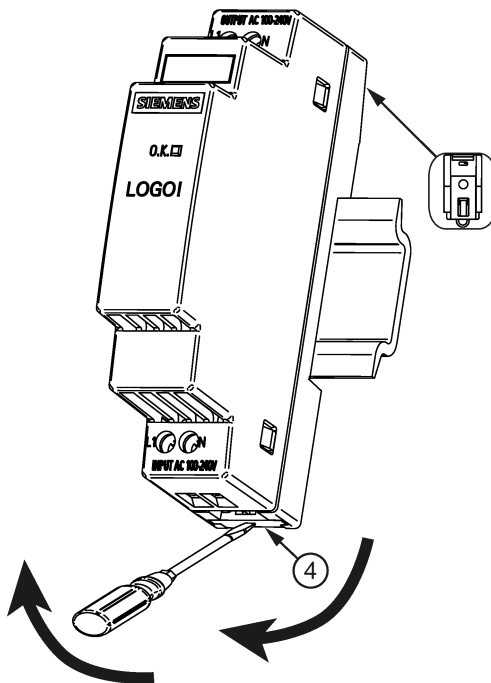

Figure 3-11 Mounting/removal
To remove, pull up the slider ④ using a screwdriver (see Figure 3-11 Mounting/removal (Page 64)) and disengage the device at the bottom edge of the standard mounting rail. Then you can remove the device from the upper edge of the standard mounting rail.